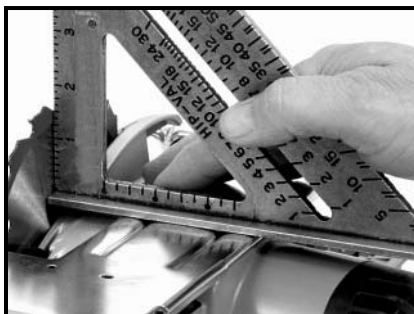

Fig. 13
2. Turn the saw upside down, retract the telescoping guard and check the squareness of blade (Fig. 13).